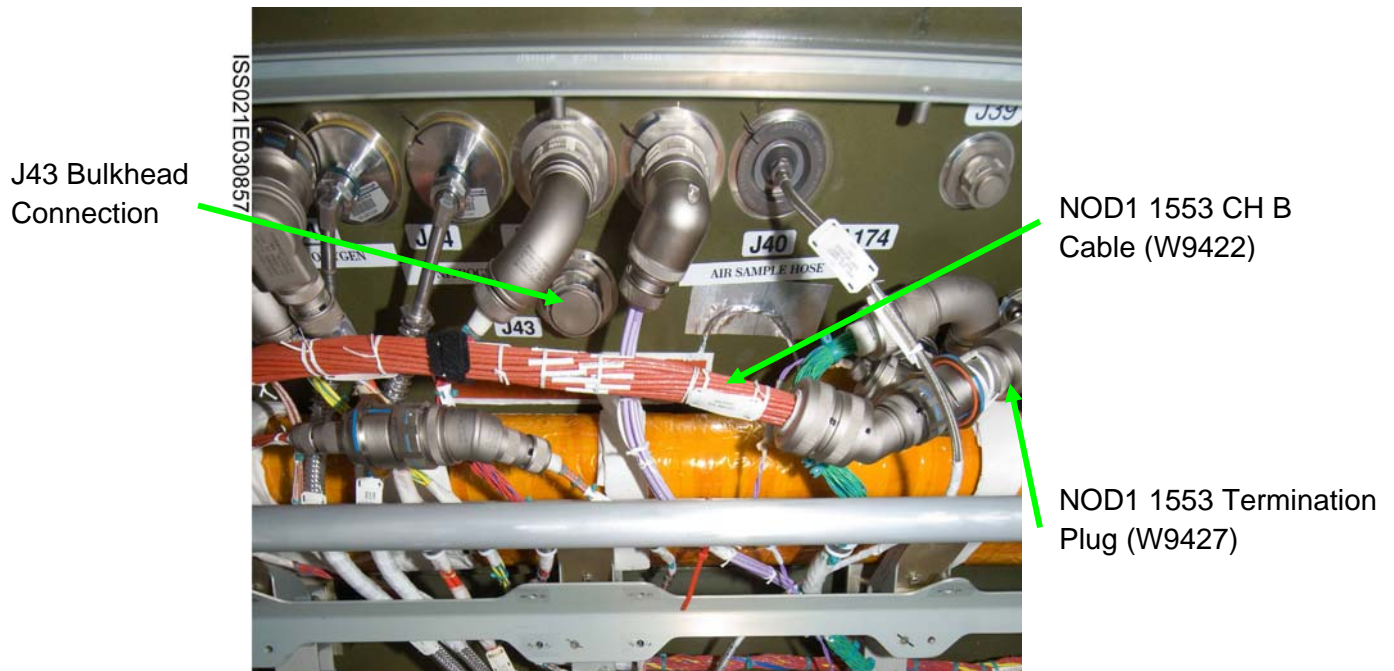

Figure 33. - NOD1 1553 CH B Cable After Installation on ULF3.
26.2 Locate NOD1 1553 CH B Cable (W9422) and NOD1 1553 Termination Plug (W9427) (connected to each other) stowed below Node 1 Port Hatch. Refer to Figure 33.